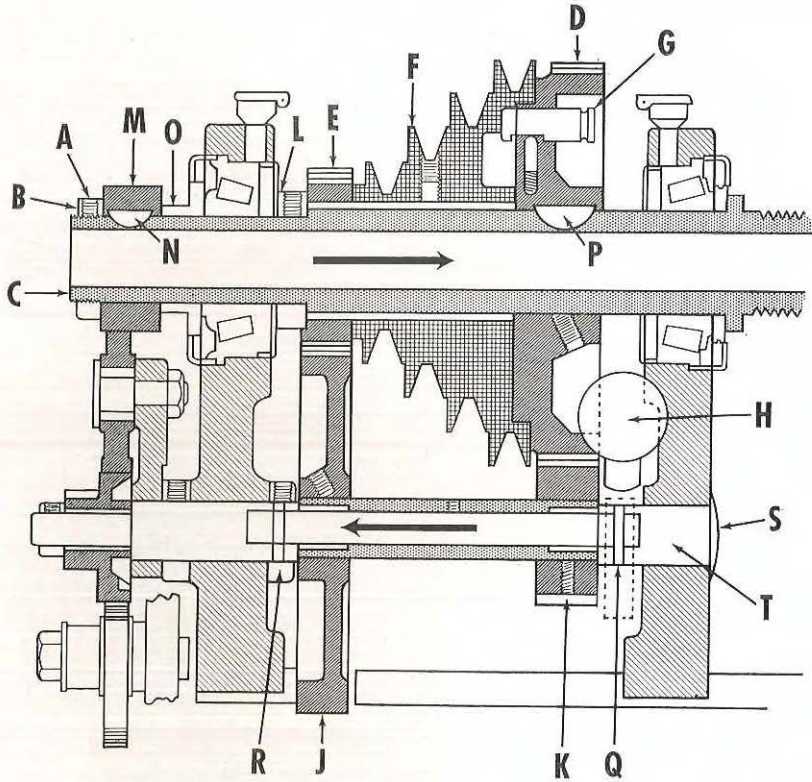

FIG. 11
Run the lathe between thirty minutes and an hour to warm up the spindle (a temperature rise of 50° Fahr. increases the spindle about .002 inch between bearings). Then loosen the set screw A (in Fig. 11) on the thrust nut, B, at the extreme left end of the spindle, C, and turn it up to a point where no play can be detected in the spindle. Advance this thrust nut 1/16 turn past that point (equal to two teeth on the spindle gear) in order to provide the correct pre-load. Tighten the set screw.
The lathe back gearing mechanism is pictured in Figure 11, and explains the details of operation. The "bull gear," D is keyed solidly to the spindle. The small gear, E, and the spindle pulley, F, are fastened together rigidly — they have wide, perfectly fitting bronze bearings for rotation on the spindle. This small gear and pulley assembly is free to rotate unless the pin, G, is pushed in, locking the pulley to the bull gear and spindle. In this locked position with the back gears disengaged, the spindle is driven directly from the countershaft.
(Refer to Figure 11)
3. To reassemble, reverse the procedure in "Removing Headstock Spindle", page 13. Be sure belt is in position. When driving spindle into headstock, use the palm of your hand as much as possible to avoid damaging the precision surfaces of the spindle nose. Use Figure 11 as a guide, making sure all parts are installed in their proper positions. Read the following instructions for spindle and back gear adjustments.